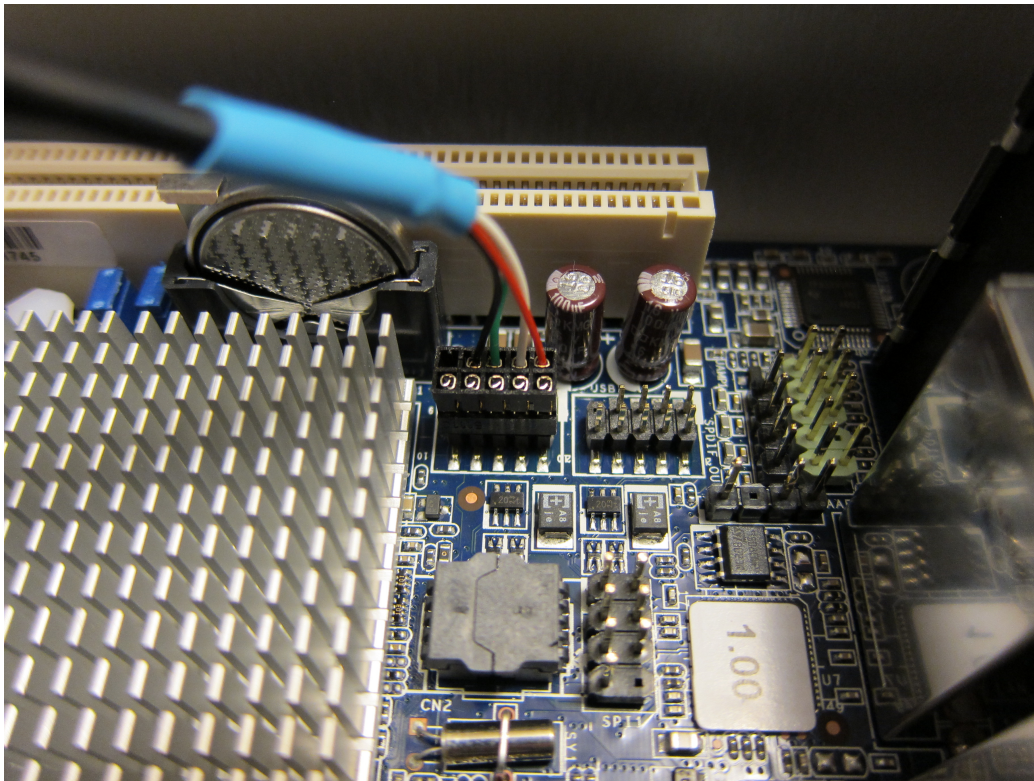

Figure 44: USB cable connected to the motherboard USB2 connector.
13. Route the USB cable under SATA and power switch cables. Connect the free end of the USB cable to the 2×5 2 mm header on the motherboard, labeled USB2, see Fig. 44. Make sure the missing pin on the header matches the missing terminal on the cable connector.